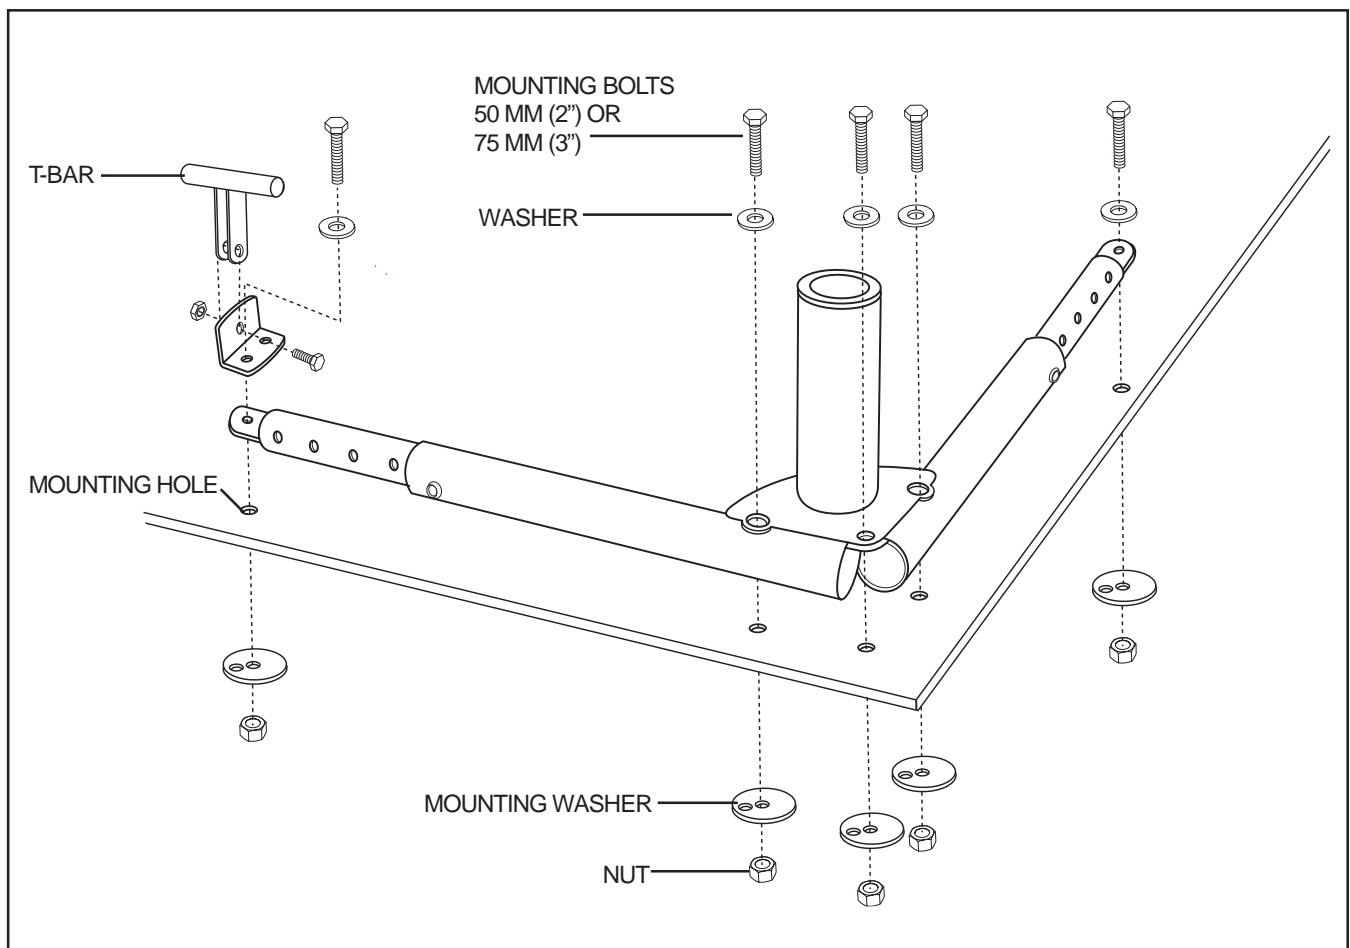

Figure 9. Securing The L-Base
1. Inspect the undercarriage of the vehicle where the lift L-base is located for obstructions that may hinder the installation of the five (5) mounting bolts that will secure the L-base to the vehicle. Obstructions may consist of electrical wiring, gas tank, bumper mounts, or exhaust pipes. You may need to adjust the base extensions to clear obstructions. If possible, install the L-base with the base extensions fully extended. See **figure 9**.
2. If all is clear under the L-base, mark the position of the five (5) mounting holes and drill them using a 3/8-in. drill bit. Drill all mounting holes from inside the vehicle. **See figure 9.**
4. Position the T-bar on the end of the base support that runs parallel with the rear of the vehicle, and install a mounting bolt and washer through it and the L-base. **See figure 9.**
5. Install the four (4) remaining mounting bolts and washers onto the L-base.
6. From under the vehicle, install the mounting washers and nuts to all five (5) mounting bolts and tighten. **See figure 9.**